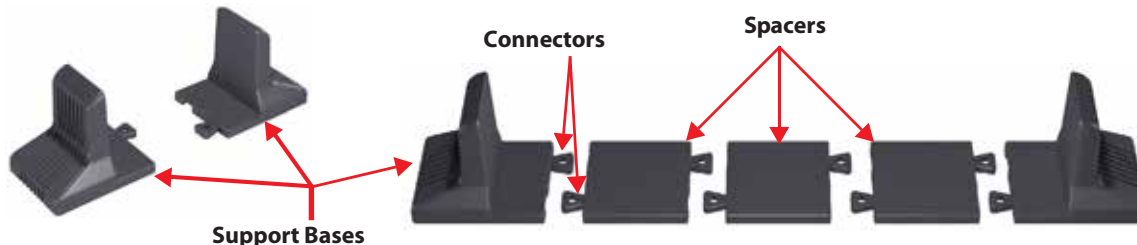

Figure 9: Support bases
1. Take out support bases from the accessories bag (see Figure 9).
3. Connect the spacers and the support bases as shown in Figure 9. Each S4KC needs two assembled support bases, one in the front and one in the rear.